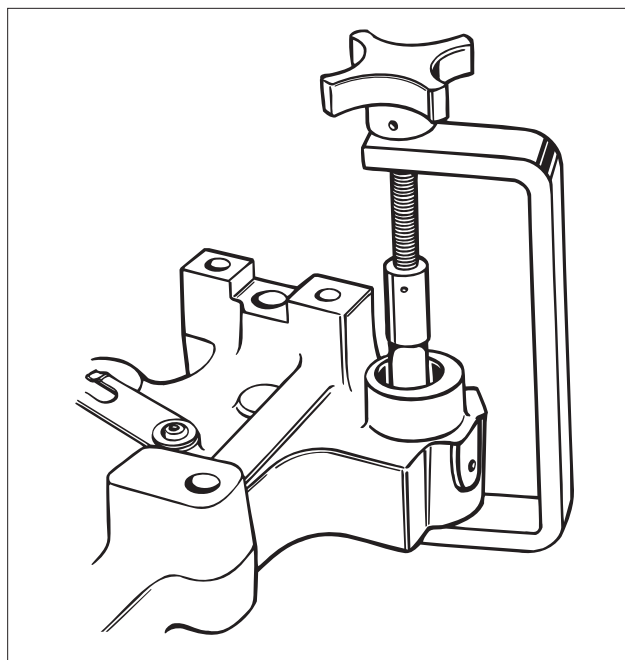

FIG. 24
1. Place the hole in the clamp bracket over the slave piston adjusting screw (Fig. 24).